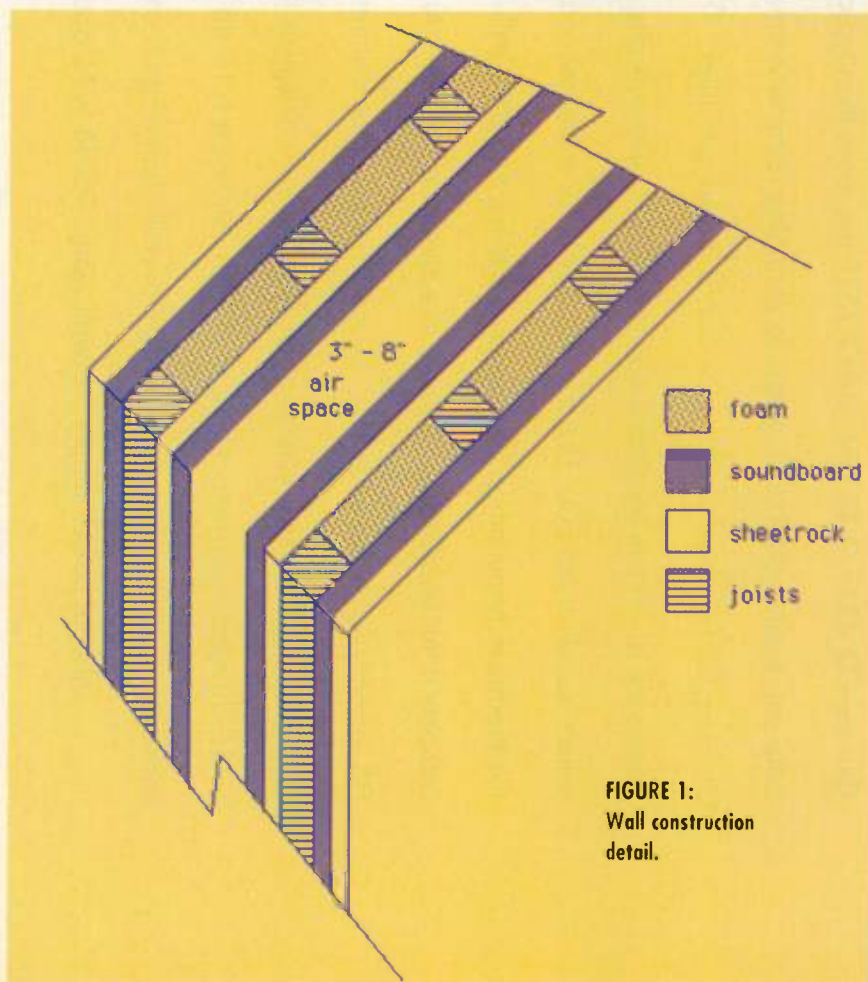

FIGURE 1:
2. Get In Touch With Your Inner Wall: Cut 4-inch solid rigid foam to size and place it between every joist; caulk between the foam and the joists. Then, going from the outside of the wall inward, you have several layers (fig. 1): 1/2-inch sheetrock, 1/2-inch soundboard (a very dense wood that's